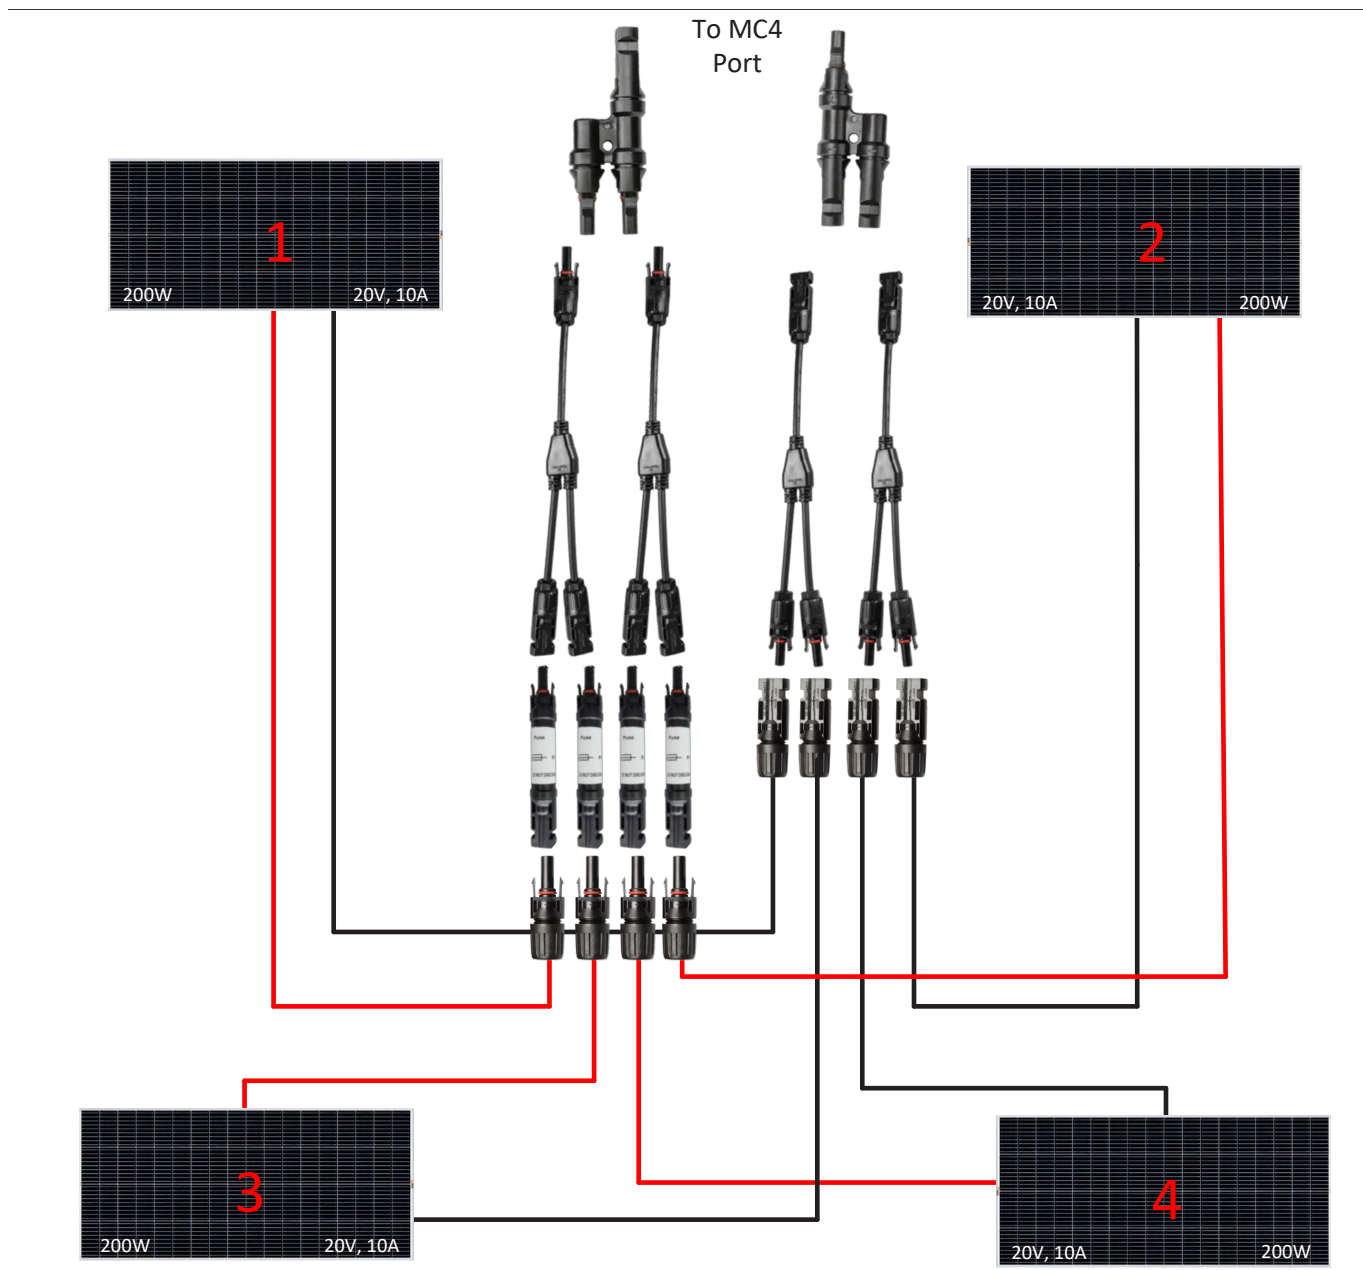

Figure 11
11. Begin wiring panels together per attached diagrams (Existing wiring diagram-Figure 11, Page 11, NEW wiring diagram-Figure 12, Page 12). Install extension (56" - P/N T113021 for floorplan 3250, 24" - P/N 104366 for all other floorplans) (Figure 10).
12. Existing wiring combines (4) 200W solar panels in Parallel (Figure 11).